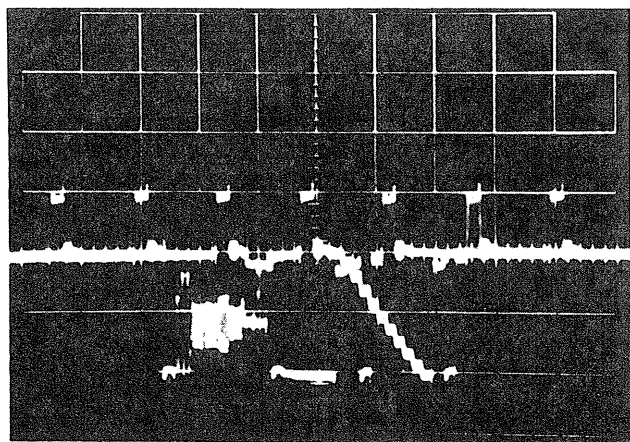

Figure 17. Oscilloscope Presentation of Field #1 and Field #2 VITS Information.
10. Pull the «» POS control outward to obtain an additional 5x magnification. Rotate the control in a counterclockwise direction moving the traces to the left until the expanded VITS information appears as shown in Figure 17.
Figure 17 shows the dual-trace presentation of the field #1 and field #2 VITS information. The field #1 information is displayed on the trace.